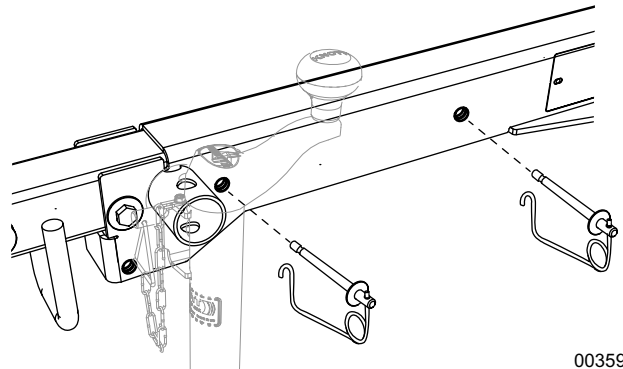

Figure 2-6. Install and Secure Pins
7. See Figure 2-6. Install pins as shown to secure trailer tongue in tow position.